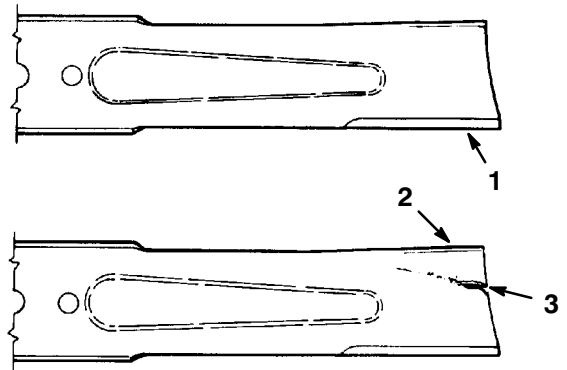

Figure 41
2. Inspect the blades, especially the curved area (Fig. 41). If you notice any damage, wear, or a slot forming in this area (item 3 in Fig. 41), immediately install a new blade.
1. Inspect the cutting edges (Fig. 41). If the edges are not sharp or have nicks, remove and sharpen the blades. Refer to Sharpening the Blades on page 32.